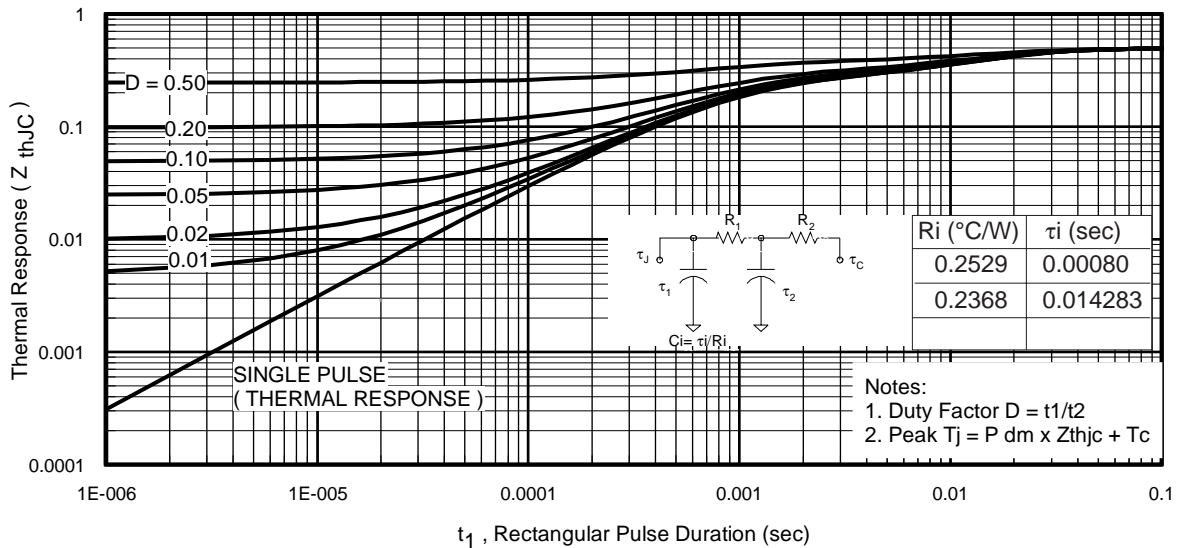

Fig 11. Maximum Effective Transient Thermal Impedance, Junction-to-Case
- ① Repetitive rating; pulse width limited by max. junction temperature. (See fig. 11).
- ② Limited by T_{Jmax} , starting $T_J = 25^\circ\text{C}$, $L = 0.12\text{mH}$
$Z_{thJC}(D, t_{av})$ = Transient thermal resistance, see figure 11)